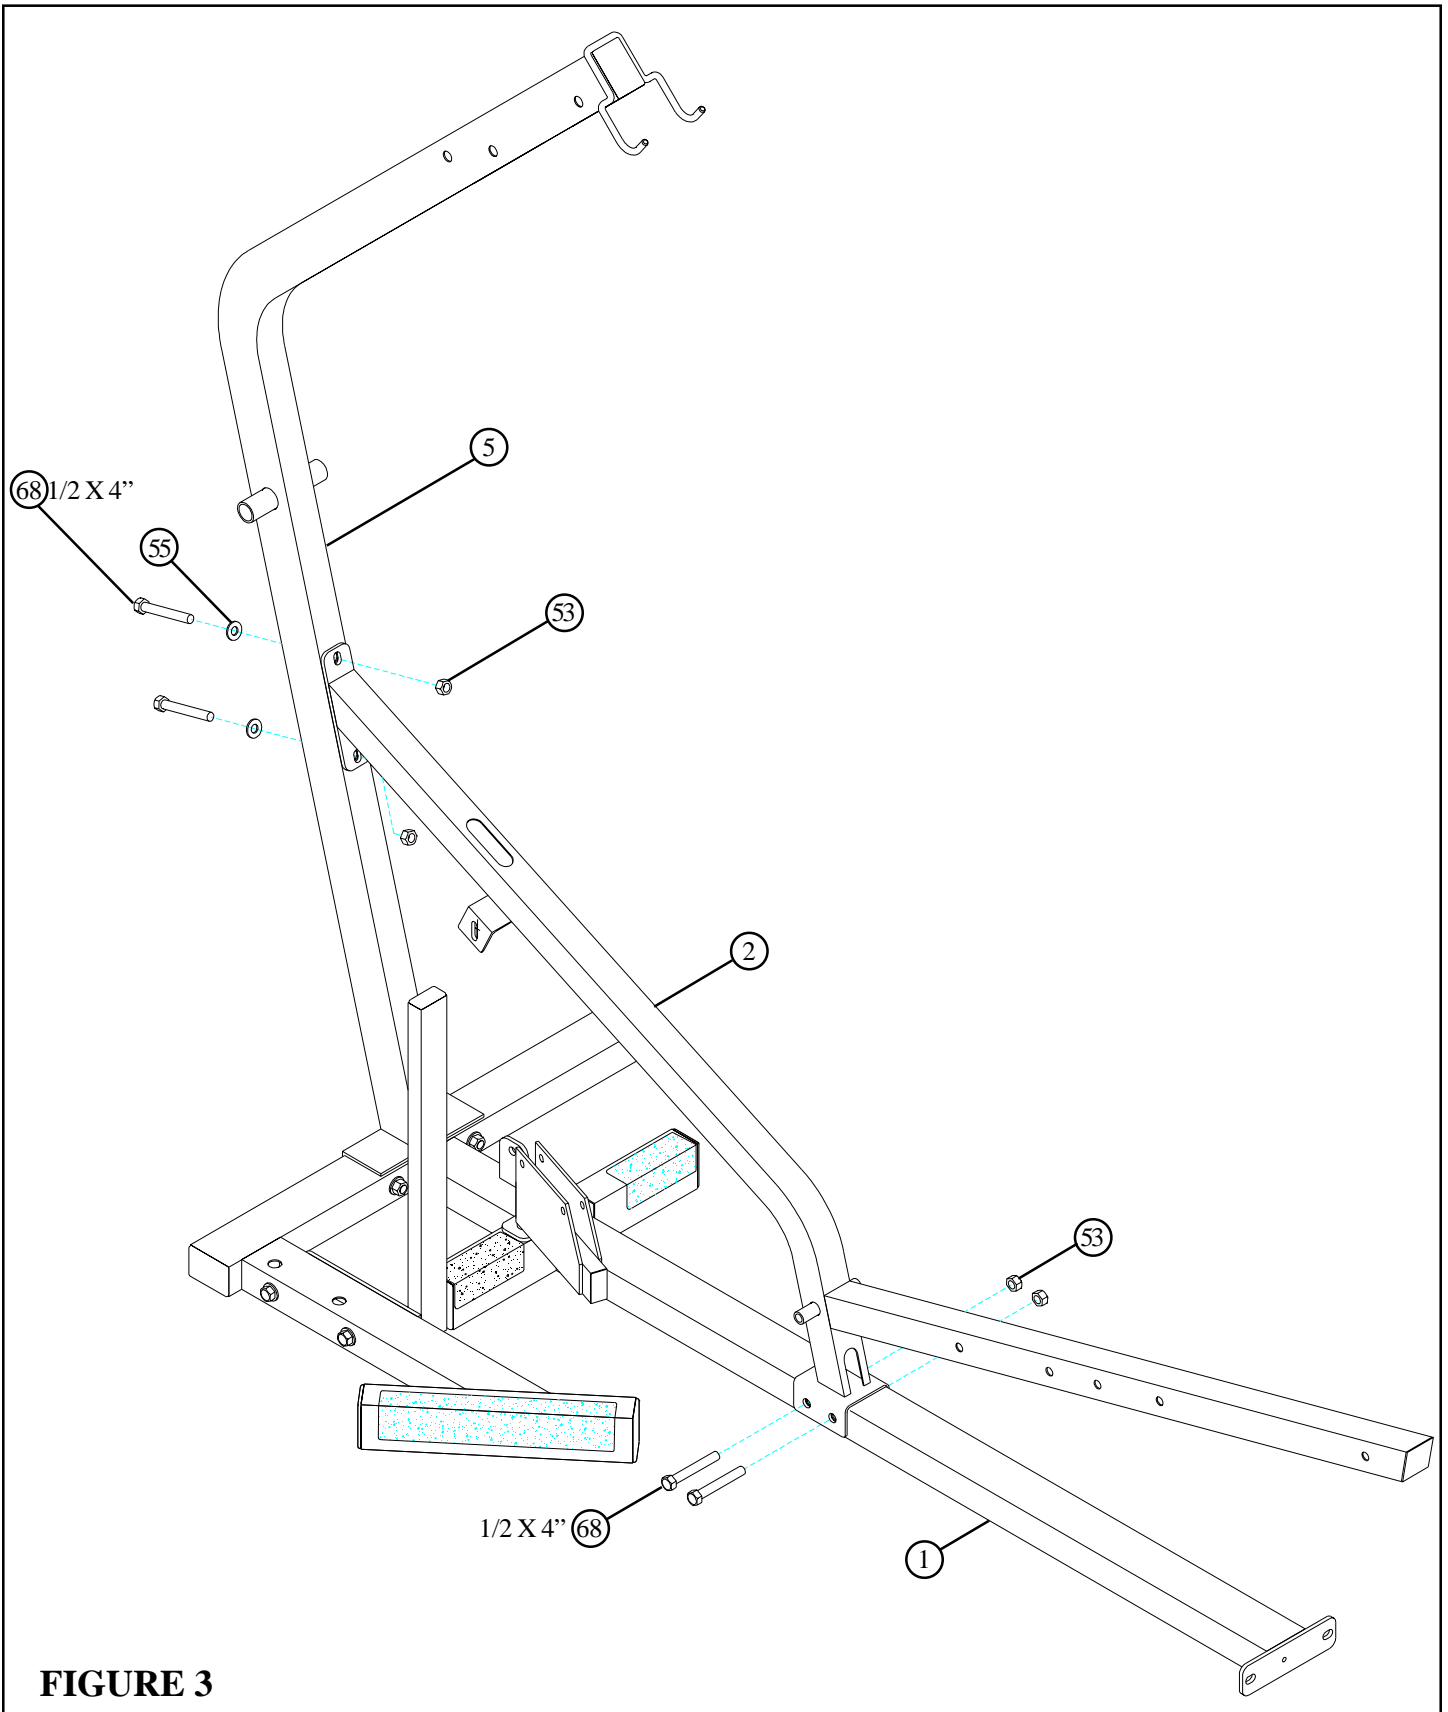

**FIGURE 2**
- Loosely assemble the TOP BOOM (5) to the BASE (1) using two 1/2 X 4" BOLTS (68), two 1/2" WASHERS (55), and two 1/2" LOCK NUTS (53) as shown in FIGURE 2.